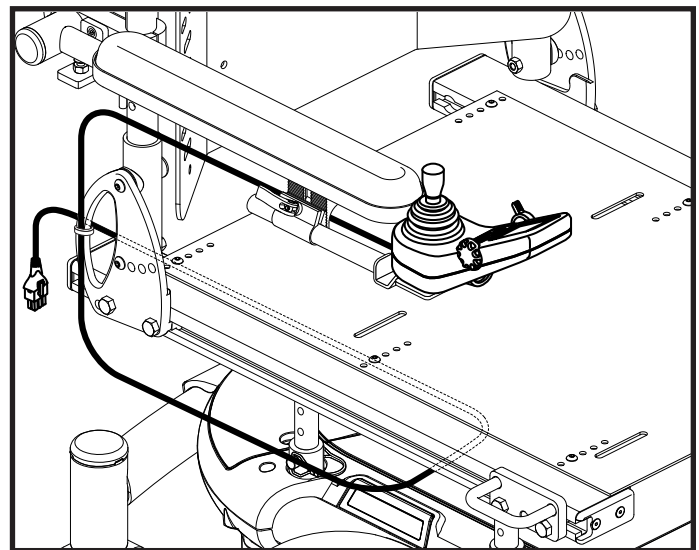

Figure 33. Controller Harness Routing
6. Route the controller harness to the back of the power base and secure it with wire ties. **See figure 33.**